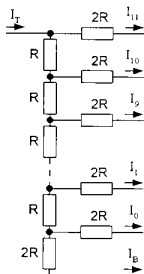

Figure 8
5. (a) *Figure 8* shows an R-2R ladder network that forms part of a 12-bit Digital-to-Analog converter. Show that, providing certain conditions are met, $I_k = 2^{k-12} I_T$. State the conditions needed for this to be true and give an expression for I_B . [4]